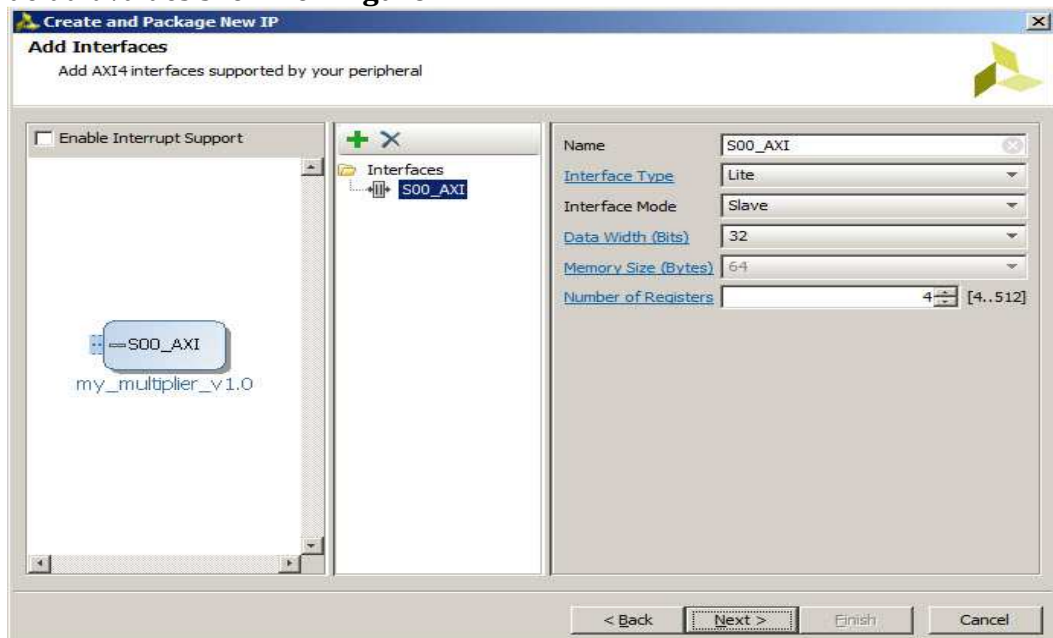

Figure 16: Add Interface
- Now you can give the peripheral an appropriate name, description and location as seen in **Figure 16**. Click “Next”.